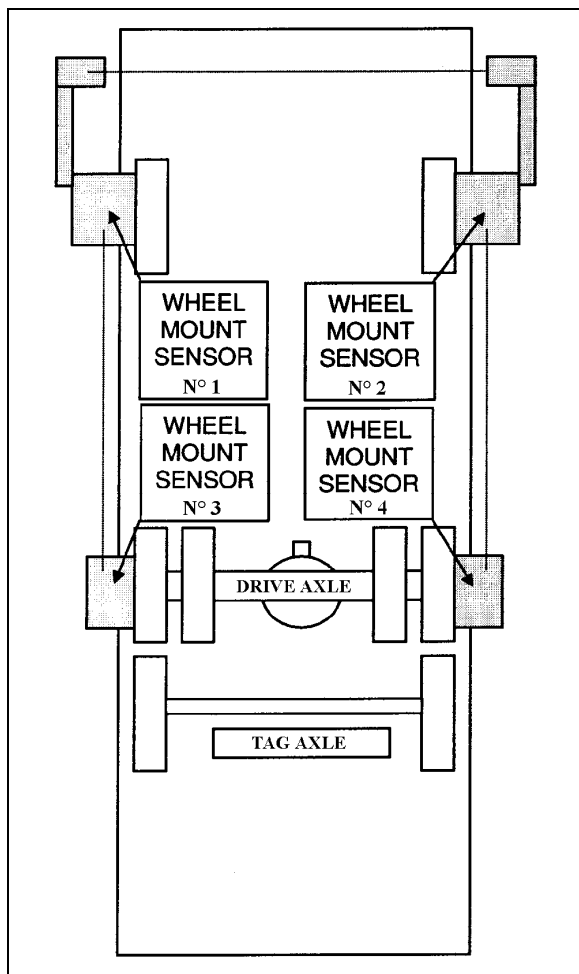

FIGURE 6: FRONT &amp; DRIVE AXLE ALIGNMENT
3. Install wheel mount sensors on front end and drive axle wheels (fig. 6).